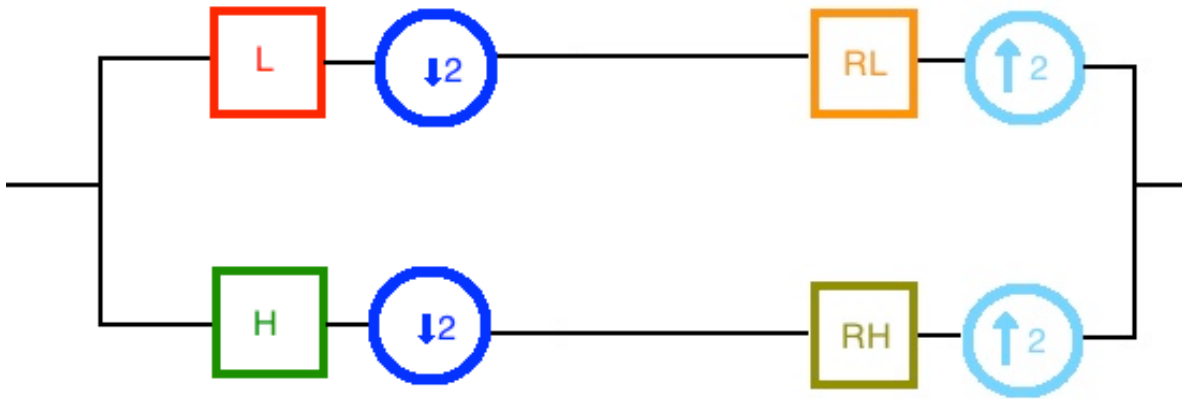

Figure 12. One stage schematic.
- **One stage implementation:** in this first case we are going to implement only one stage. Figure 12 shows the schematic of this first case.